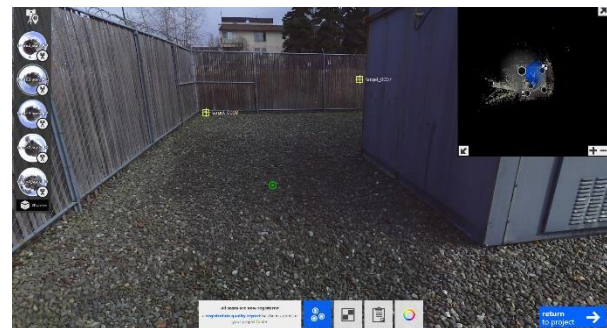

Figure 6: Add Control Point
- Add a point by clicking in the body of the scan where you would like to add a reference point (Figure 6)